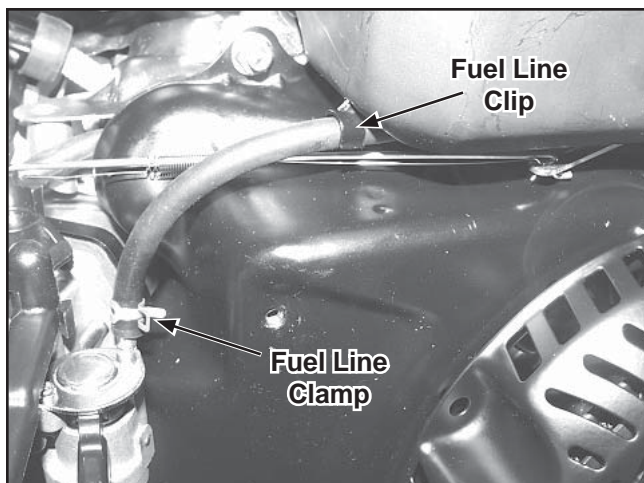

Figure 11-84. Connecting Fuel Line.
5. Position the fuel line in the clip on the bottom of the tank. Connect the fuel line to the shut-off valve on the carburetor and secure with the clamp. See Figure 11-84.